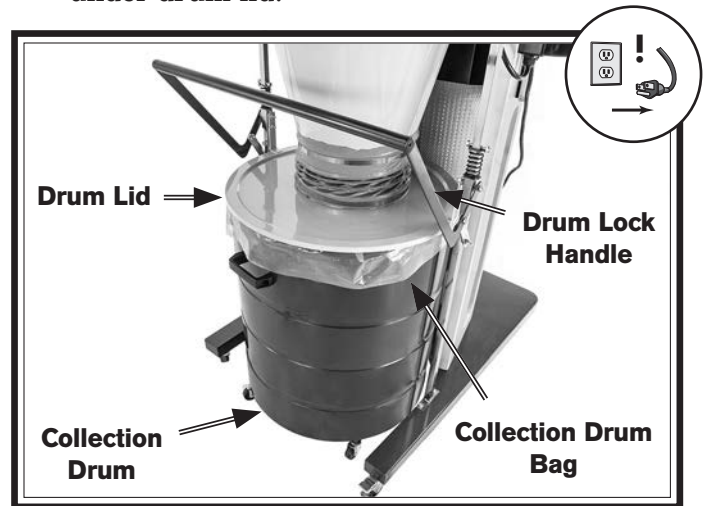

Figure 67. Components used in collection drum bag removal.
2. Lower drum lock handle to raise drum lid (see **Figure 67**), then roll drum out from under drum lid.